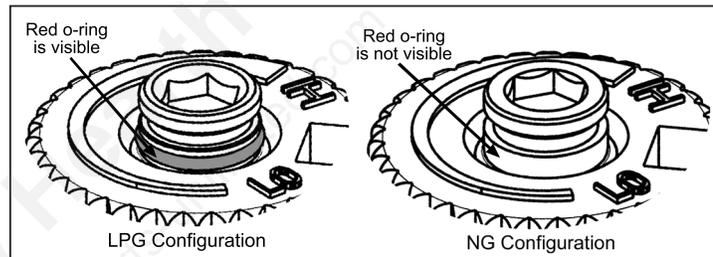

Figure 12: O-ring on valve screw.
- f) Verify that if the conversion is from NG to LPG, the screw must be re-assembled with the red o-ring visible (refer to Figure 12). If the conversion is from LPG to NG, the red o-ring of the screw must be not visible.